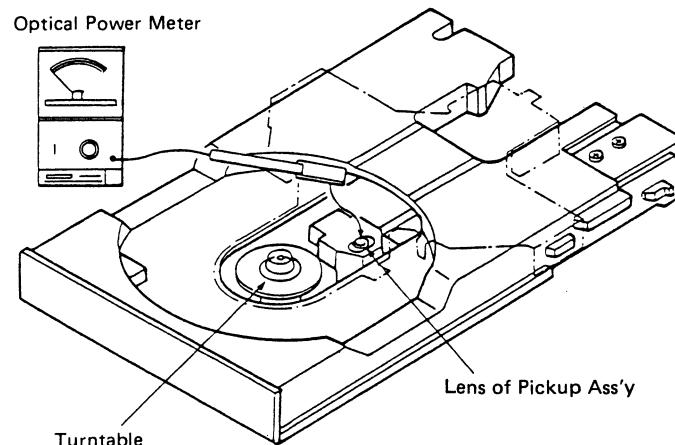

Fig. 3.3
- (1) Remove the Top Cover Ass'y refered to in item 2.1 on page 4.
- (2) Short-circuit TP105 and TP106 located on the Servo P.C.B. Ass'y.
- (3) Place the optical power meter against the pickup (Fig. 3.3), and check that the laser power is between 0.15mW and 0.4mW.